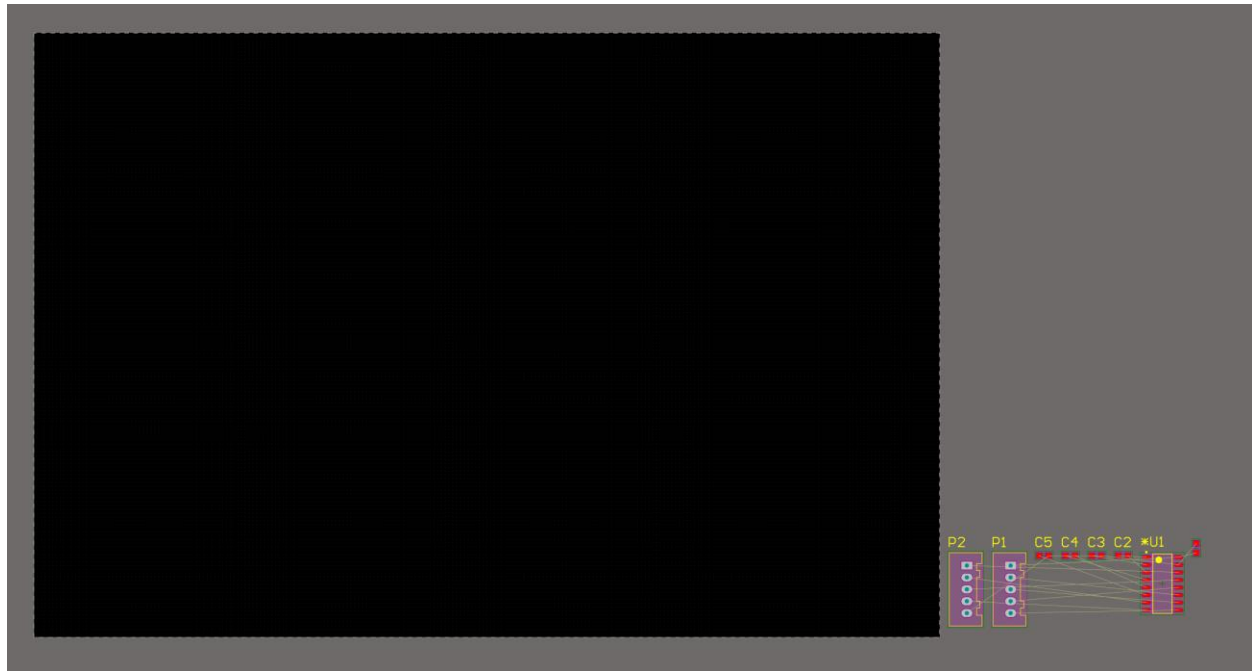

Figure 5: Default Layout of New PCB
10. You should now see a screen similar to Figure 5.